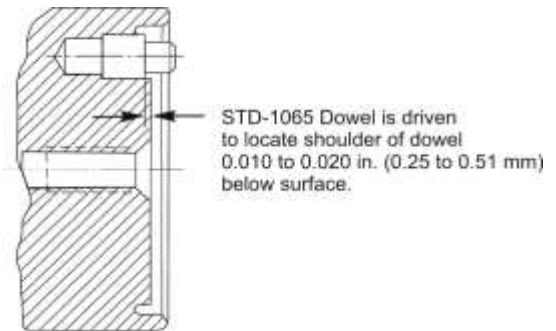

Figure 43
- (8) Remove and discard the alignment dowel.
- (9) Examine the bottom of the alignment dowel hole to make sure that the drill bit did not make contact with the bottom of the hole. If the drill bit made contact with the bottom of the hole, send the crankshaft to the factory for evaluation.
- (10) Press the replacement alignment dowel into the alignment dowel hole to the required driven height. Refer to Figure 43 or the latest revision of Service Bulletin No. SB-475 and its supplements for the alignment dowel part number and the correct driven height.